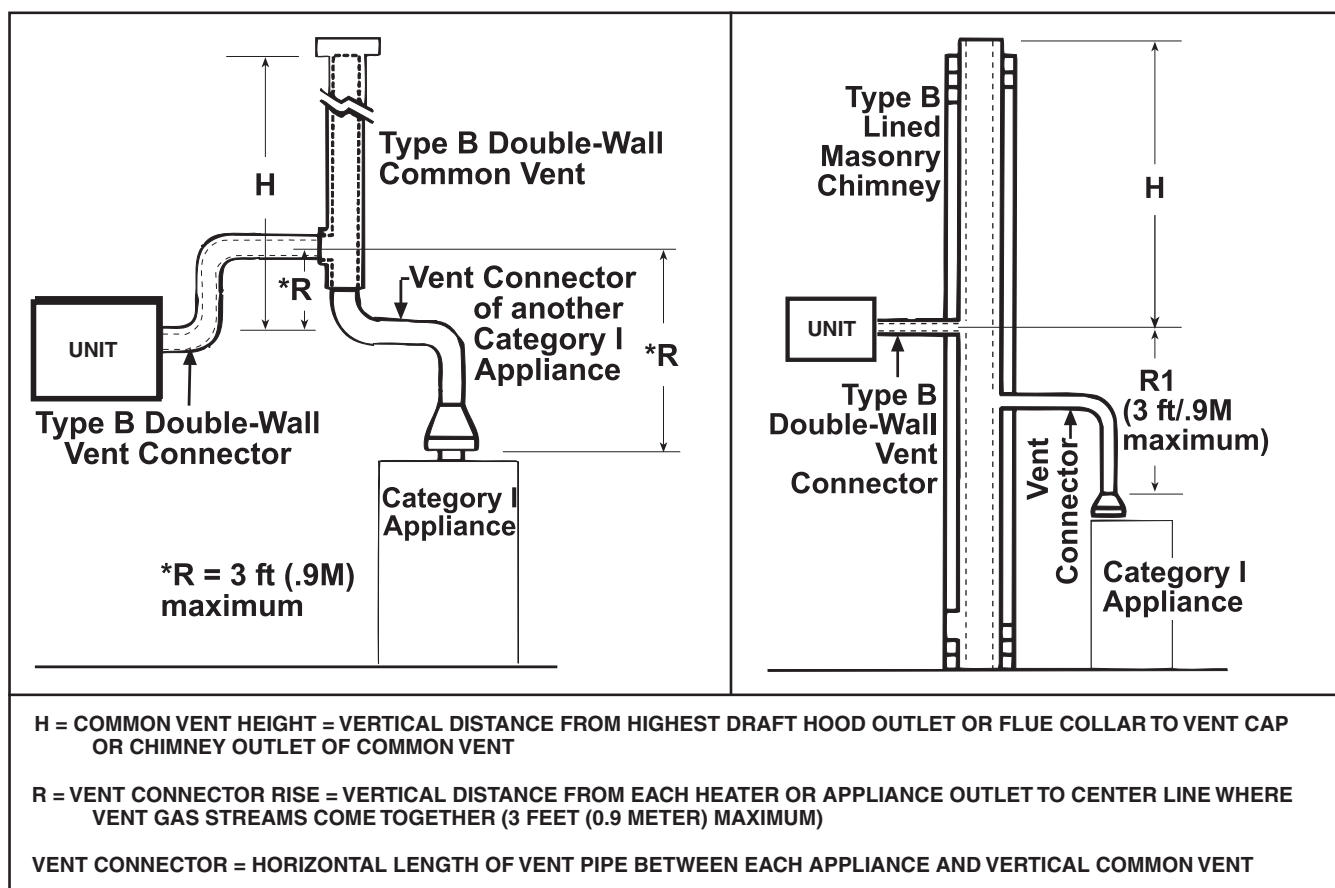

Figure 15. Typical Category I Common Vertical Vent
1. Select vent pipe and vent connector for Category I vent (see Figure 15).